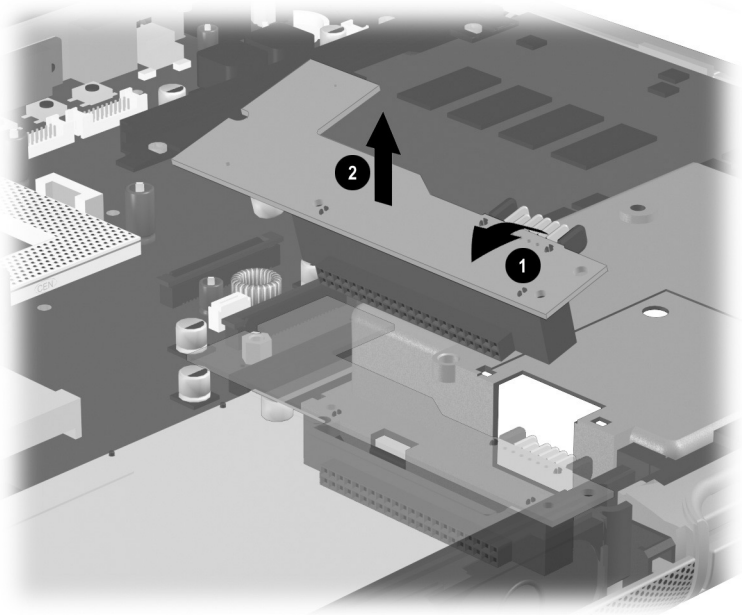

Figure 5-40. Removing the Charger Board
4. Swing the right side of the charger board up and to the left ① until the hard drive connector clears the system board (Figure 5-40).
5. Remove the charger board ②.